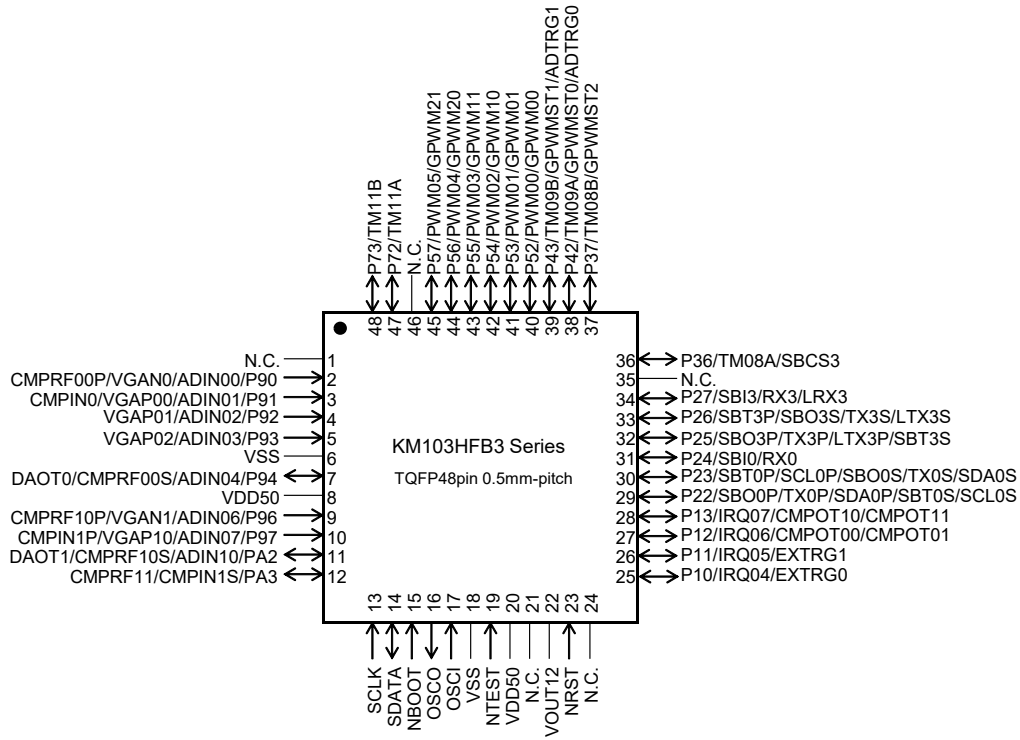

Figure 1.4-5 Pin Configuration Figure of KM103HFB3 Series (48 pins)
- Pin Configuration Figure of KM103HFB3 Series (48 pins) (Figure 1.4-5 )
Figure 1.4-5 shows pin configuration figure of KM103HFB3 series (48 pins).